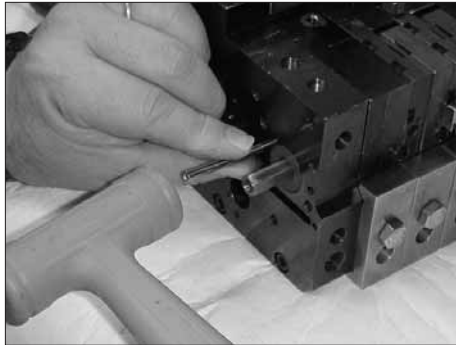

Figure 7-102 Inserting the end-slice dowel pins
1. See Figure 7-102. Insert the end-slice dowel pins in the applicator. This will require light tapping with a hammer.